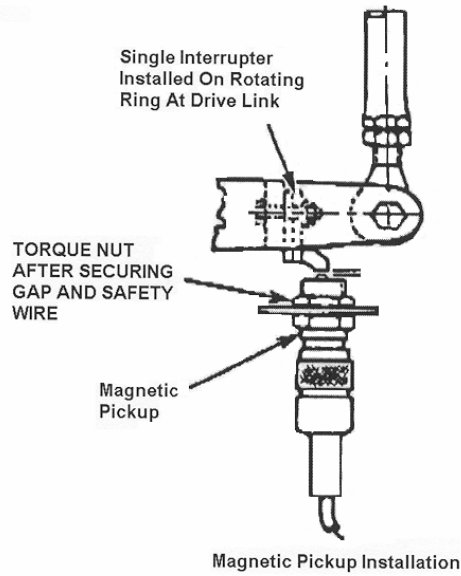
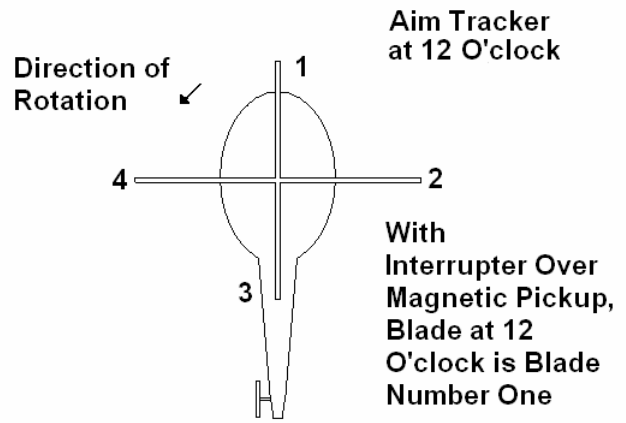

Figure 1
Figure 2
2. The Hughes 500 series helicopters are fitted with a magnetic pickup bracket for installation of the pickup. Install the Magnetic Pickup (Item 6) into the bracket. Rotate the main rotor until the Yellow blade is over the nose of the aircraft. The interrupter and pickup should be aligned. Adjust the gap to 0.020-0.030" and secure pickup. Safety wire jam nuts as required. (Figure 1) The Yellow blade is now designated as Blade #1. (Figure 2)